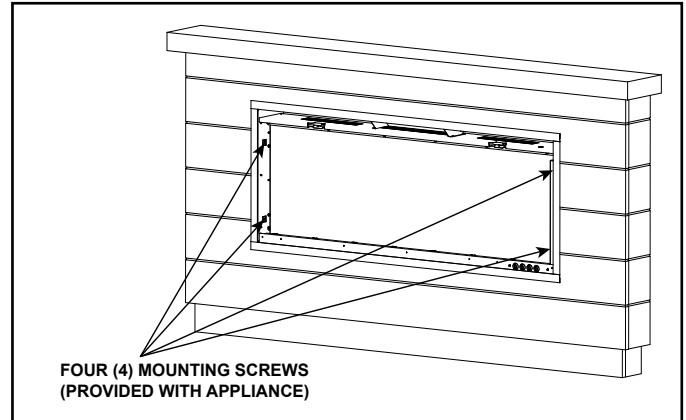

Figure 32
Follow the appliance installation instructions included with the appliance to mount the appliance into the cavity of the build-out kit cabinet. Once the appliance is wired, level and plum with the cabinet, secure it via the appliance mounting locations with the four (4) construction screws (W) included with the appliance. See Figure 32.